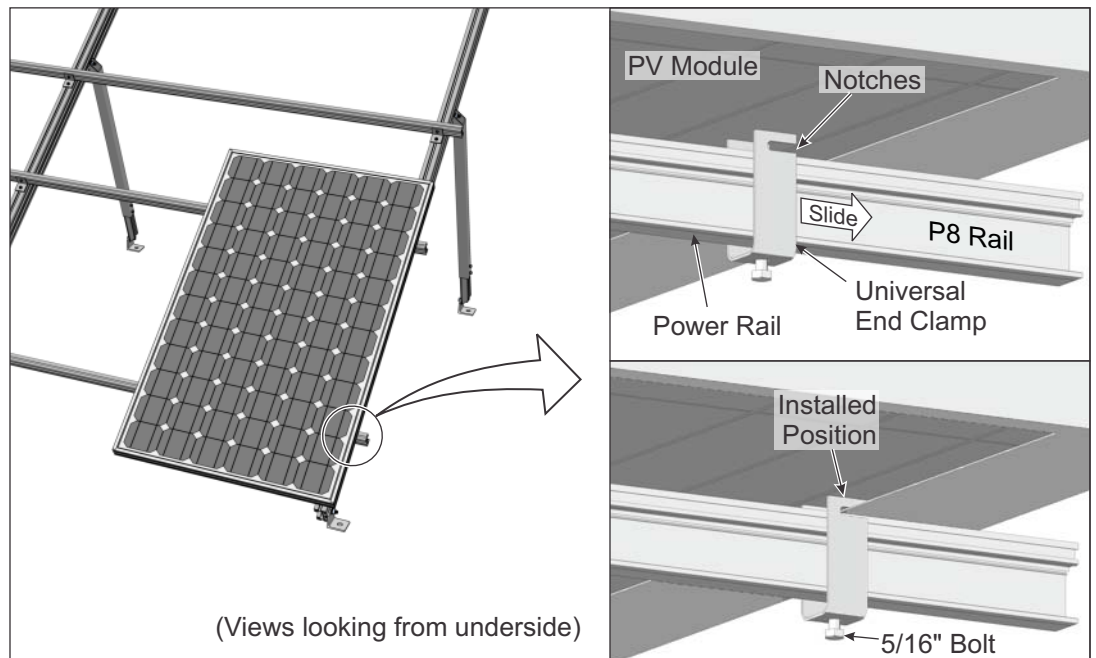

Figure 8-8: Installing PV Modules using Universal End Clamp
- B. Position Universal Clamp underneath the module with notches facing the outside edge of the module, and rail centered between 'forks' of the clamp. Slide clamp notches towards the module flange until the flange bottoms out in the notches. Tighten 5/16" bolt on bottom of universal end clamp. **Torque to 14-16 ft.-lbs.** Repeat for both end clamps. (See Figure 8-8)